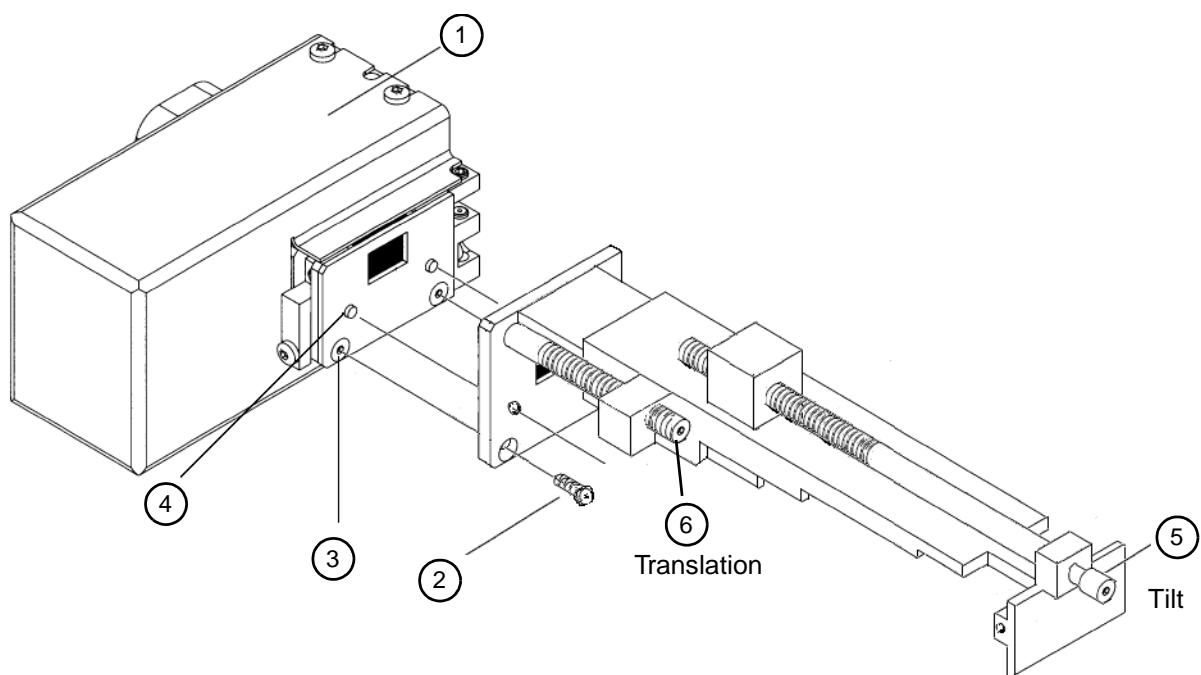

Figure 4.28 - Air scatter screen, exploded view
2. Remove the flange plate by removing the two screws labeled "3" in Figure 4.28.
3. Mount the air scatter screen to the divergence assembly by aligning the two holes to the matching alignment pin (item 4 in Figure 4.28) located on the plates of the primary optics. See Figure 4.28 as an example of mounting for a variable divergence slit assembly.
4. The plates of the primary optics have two screw holes (item 3 in Figure 4.28) used for securing the air scatter screen to the divergence assembly. Secure the air scatter screen using two Torx M3x10mm screws (item 2 in Figure 4.28).
- 3.1 Set tilt to a reasonable value (see item 5 in Figure 4.28).